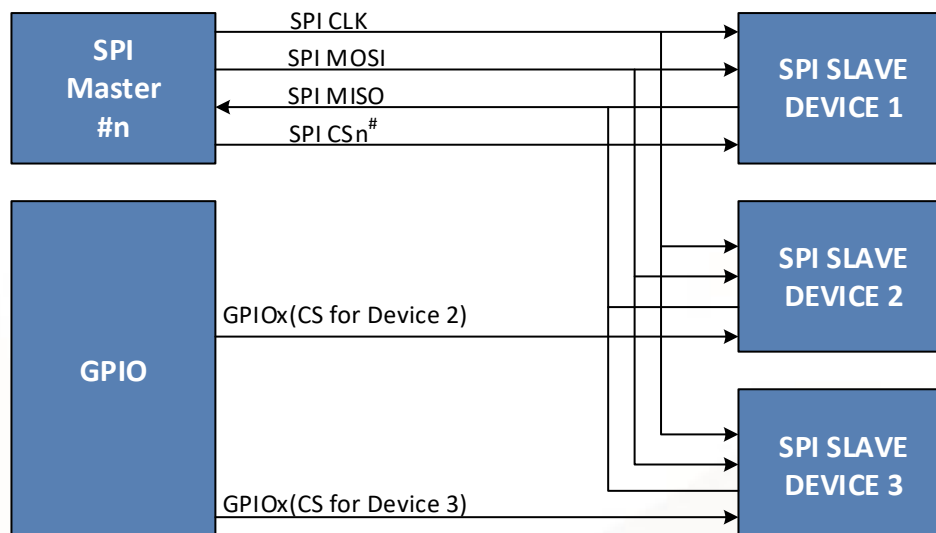

Figure 8-6. Pin connection between one master and multiple slaves in single mode
- CS GPIO mode (SPI_n Base address+0x0018) [18]: The SPI_CS pin can be replaced by any GPIO pin. Software controls the GPIO pin as the SPI_CS pin, so a single SPI master can be selected and communicate with multiple SPI slaves. Figure 8-6 is the block diagram of the multi-slave topology for single mode. The CS pin for devices 2, 3, 4 and so on is replaced by the GPIO pin.